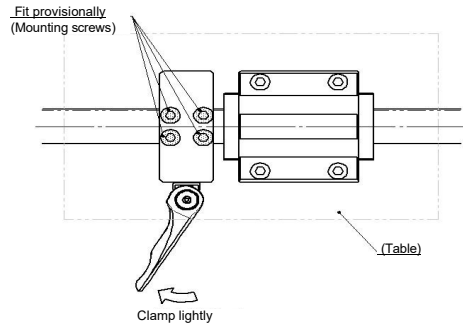

Fig. 3
- Hold the linear-rail lightly with linear-motion stopper. (Refer to fig. 3.)